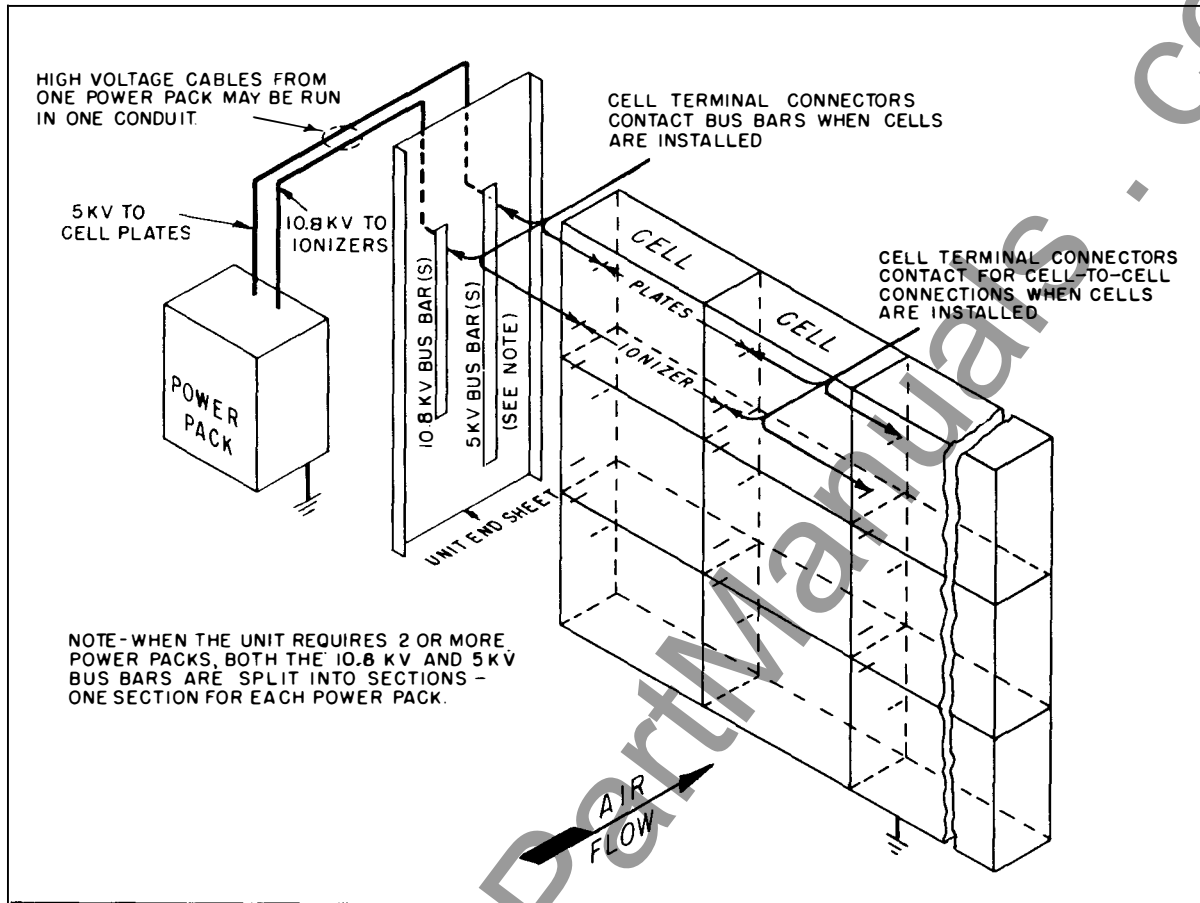
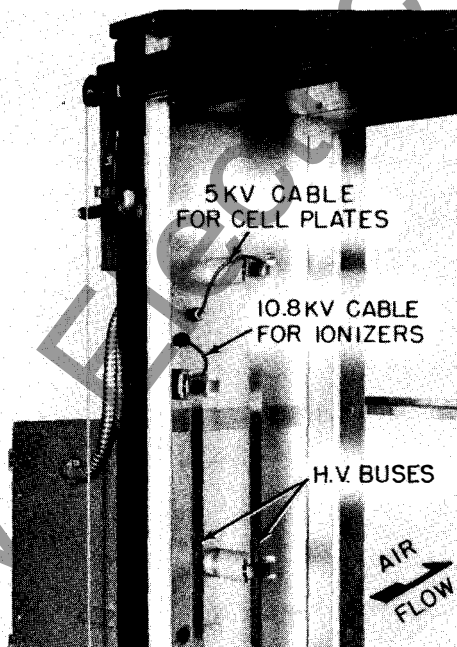

Fig. 22 — Typical High Voltage Connections
Fig. 23 — High Voltage Connections
**HIGH VOLTAGE CABLE** is supplied with the unit in 50 ft. coils. Two lengths of high voltage cable are required from each power pack. See Fig. 22. These cables should be installed in conduit between the power packs and the conduit box (es) on the power end sheet. The cables are then extended through the bushings provided to the high voltage bus bars. See Fig. 23. Lugs are provided for connecting the cables to the power pack terminals and the bus bar terminals. A conduit box is furnished on the power end sheet for each power pack, and when more than one power pack is required, the bus bar is sectionalized for connection to each conduit box. Notice that the bus bar on the inlet air side is for the ionizer cables (10.8 KV), and the outlet air side bus bar is for the cell cables (5 KV).
The high voltages are fed horizontally to each collector cell through the contacts supplied on the sides of the cells. See Figure 22.